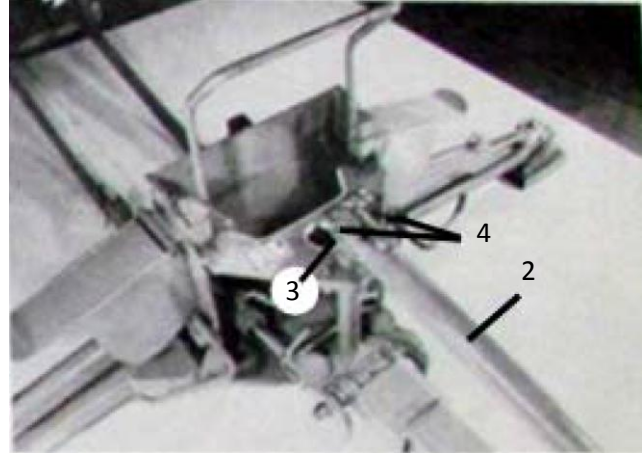

Fig. 3
(2) Mount the base end of the main boom cylinder (Item 2) with flat top end of the swing shaft between the ears of the cylinder devis. Secure the boom cylinder with a $\frac{3}{4}$ " x $2\frac{3}{4}$ " cylinder pin (Item 3) and two each $1/8$ " x 1" cotter pin (Item 4) as show in Fig. 3.